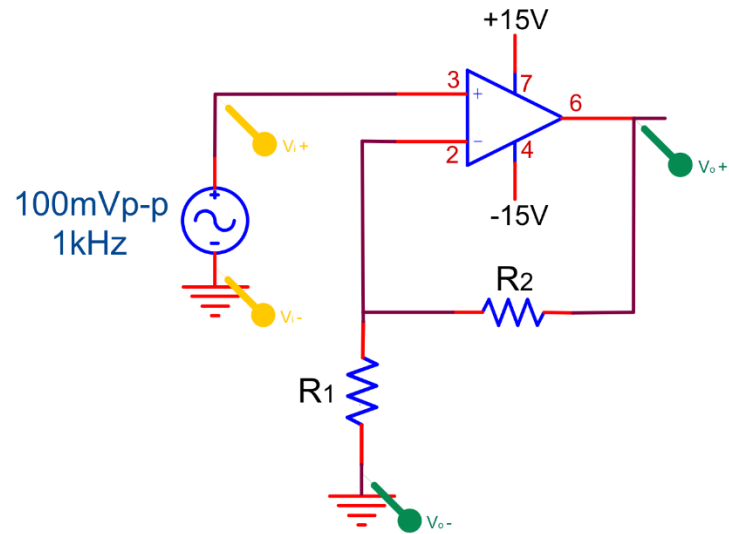

Figure 1.14
- Construct Figure 1.14 and record the gain of the non-inverting amplifier with a voltage gain of 100.